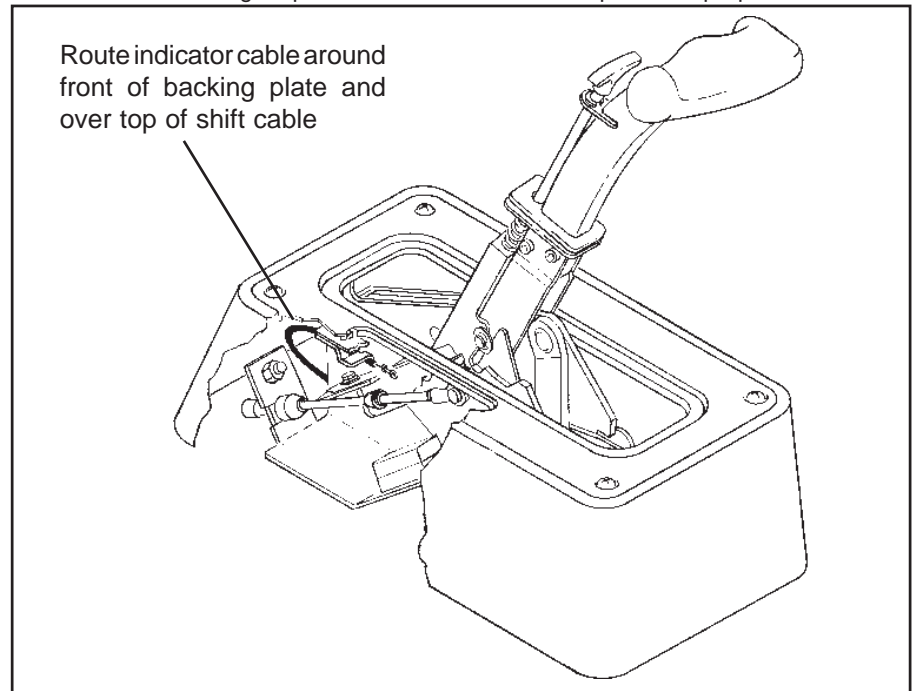

Figure 10
STEP 32. Snap shift position window into cover plate. Window snaps in from the top with tabs inserting into slots at either end of window opening. Place shifter in the Park position then remove T-Handle from shifter. Place cover plate over the stick and onto the top of the tower. Route the indicator cable as shown in **figure 10**. (If the cable is not routed this way, the indicator may bind. Run the shifter through all of the gears to check the operation of the indicator. If the indicator needs adjustment, loosen the screws holding the indicator cable clamp to the cover plate and slide the cable bracket to adjust the indicator position. (Re-tighten these screws carefully since they are threaded into plastic.) Attach the cover plate to the tower with four Phillips head screws.